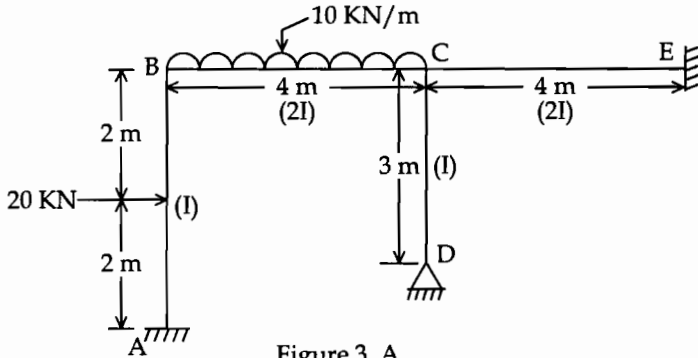

Figure 3. A
- (B) For the pratt truss shown in Figure 3.B construct the influence line diagrams for 10